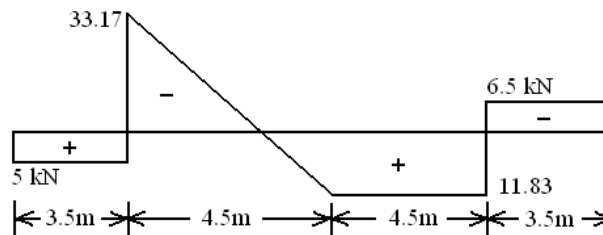

Figure 1
- 2.a) The following Figure 1 indicates the Shear Force diagram. Develop the loading and Bending Moment diagram for the beam.